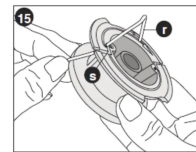

Figure 15
USE ONLY .065 IN. ROUND DIAMETER LINE) (FIGURES 15, 16, 17) Bulk line is also available for purchase from your local retailer.
- Make a fold at the end of the cutting line at about 3/4 inch (19mm)(r). Feed the cutting line into one of the line anchoring slots (s) as shown in figure 15.